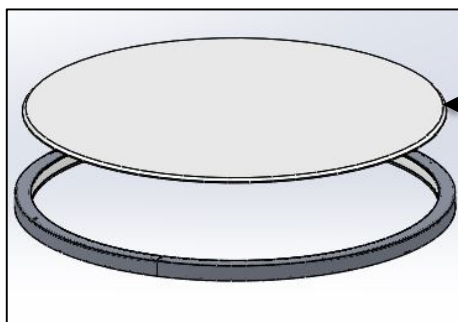

FIG. 20 - RV1 (INNER ILLUMINATION) (WITH ACOUSTIC PANEL SHOWN)
9. If there is option for Acoustic Panel, place the Acoustic part above the fixture body such that it is eventually balanced and assembly concentrically to the axis of fixture body as shown in FIG. 20 and 21 below for both RV1 and RV2 Series.